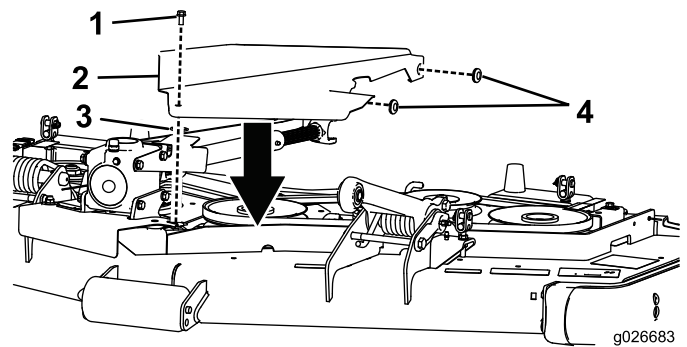

Figure 9
1. Insert a grommet into each hole in the side of the inner cover (Figure 9).
2. Install the hex flange screw and push nut to the inner cover (Figure 9).
3. Hook the side of the inner cover over the deck pins while securing the other end of the cover to the retainer nut in the pulley shield with the previously installed hex flange screw (Figure 9).